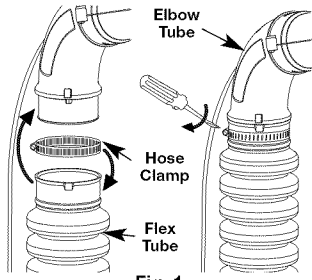

Fig. 1
1. Place a hose clamp over the end of the flex tube (Fig. 1).
2. Slide the end of the flex tube with the clamp on it over the elbow tube and tighten the screw on the hose clamp (Fig. 1).